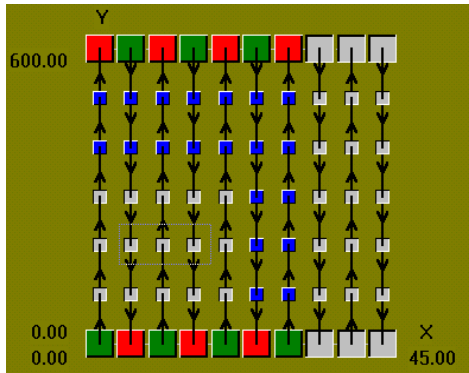
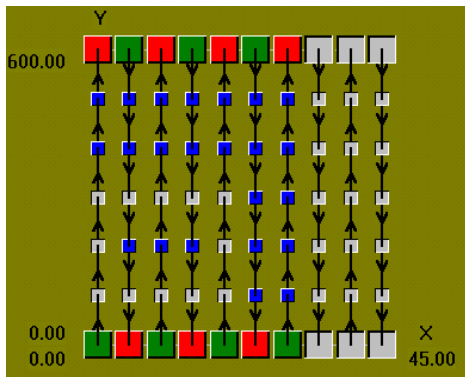

Figure 46
Figure 47
- When you select positions, if the positions were already selected they will be deselected (Figure 46 and Figure 47). If they were not selected they will be selected (pressing the CTRL key toggles the selection.)